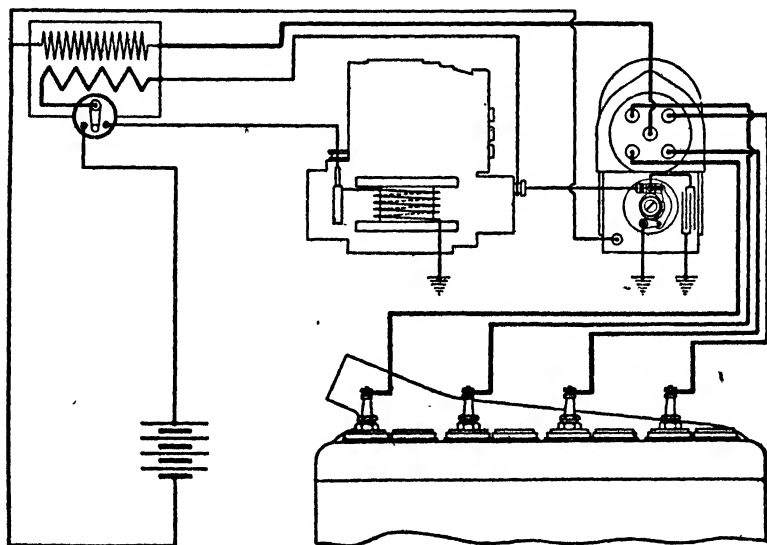

Fig. 83. Wiring Diagram of Magneto and Coil in the Remy Dual System
*Typical Wiring Diagram.* Fig. 83 is a wiring diagram of a typical dual-ignition system that illustrates the connections in greater detail than in the case of the Bosch system. The switch